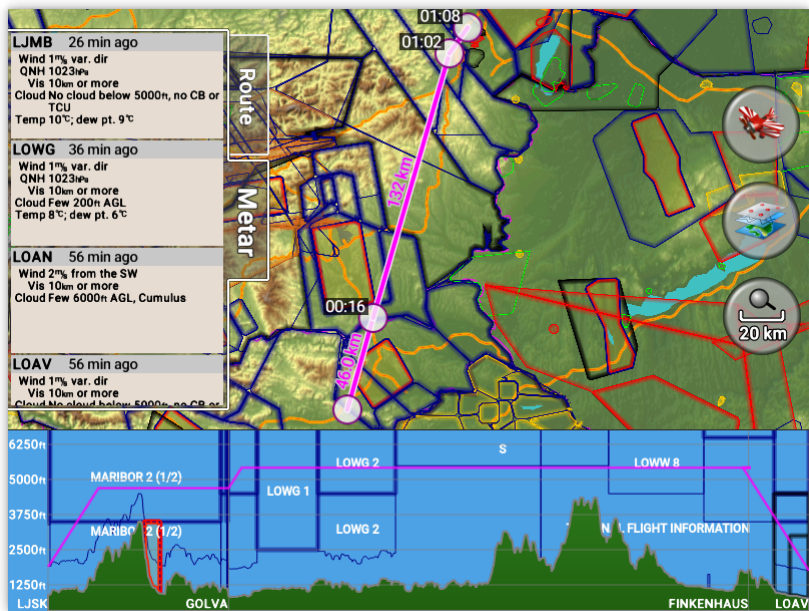

Figure 42: Example of METAR information along the route.
- A touch on the **Metar** tab will collect current METAR information from airfields close to the route and display this in a list form. Either an Internet access or an active FIS-B link connection is required for this command. Figure 42 shows an example.